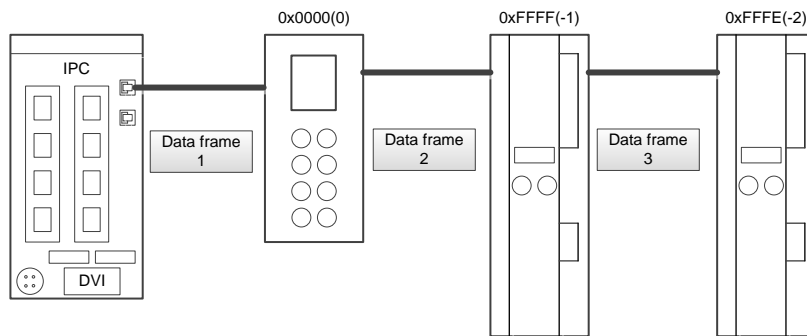
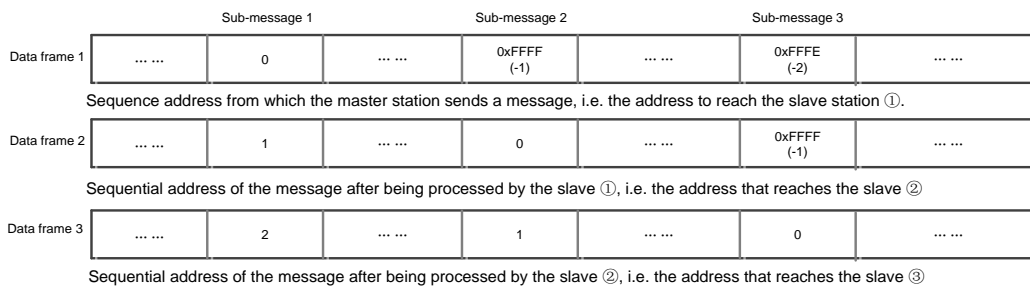

Figure 7-7 Sequentially addressed slave address
Figure 7-8 Change of sub-message address during sequential addressing
In Figure 7-7, there are three slave devices in the segment that are sequentially addressed as 0, -1, -2, and so on. When the master uses sequential addressing to access the slave, the address change of the sub-message is shown in Figure 7.8. The master station sends 3 sub-messages to address 3 slave nodes, where the addresses are 0, -1 and -2 respectively, and the data frame is 1 as shown in the figure. When the data frame reaches the slave ①, the slave ① checks that the address in sub-message 1 is 0, thus knowing that sub-message 1 is the message addressed to itself. After the data frame passes through the slave ①, all sequential addresses are increased by 1, called 1, 0 and -1, as shown in the data frame 2 in Figure 7-8. When the data frame reaches the slave ②, the slave ② finds that the address in sub-message 2 is 0, which is its own message. Similarly, subsequent slave nodes are addressed in this way. As shown in Figure 7.7, in actual engineering applications, sequential addressing is mainly used in the startup phase, and the master node configures a site address for each slave node. After that, the slave node can be addressed using a site address that is independent of their physical location. The sequential addressing mechanism can be used to automatically address the slave node, as shown in Figure 7-8.